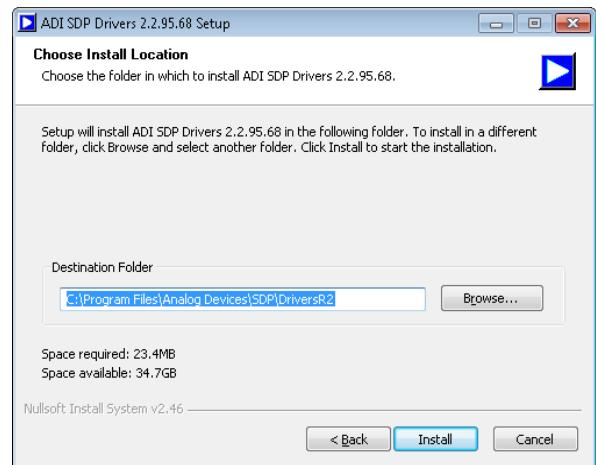

Figure 12. Choose Install Location Window
2. Choose the installation location and click **Install**; the default folder is shown in Figure 12.